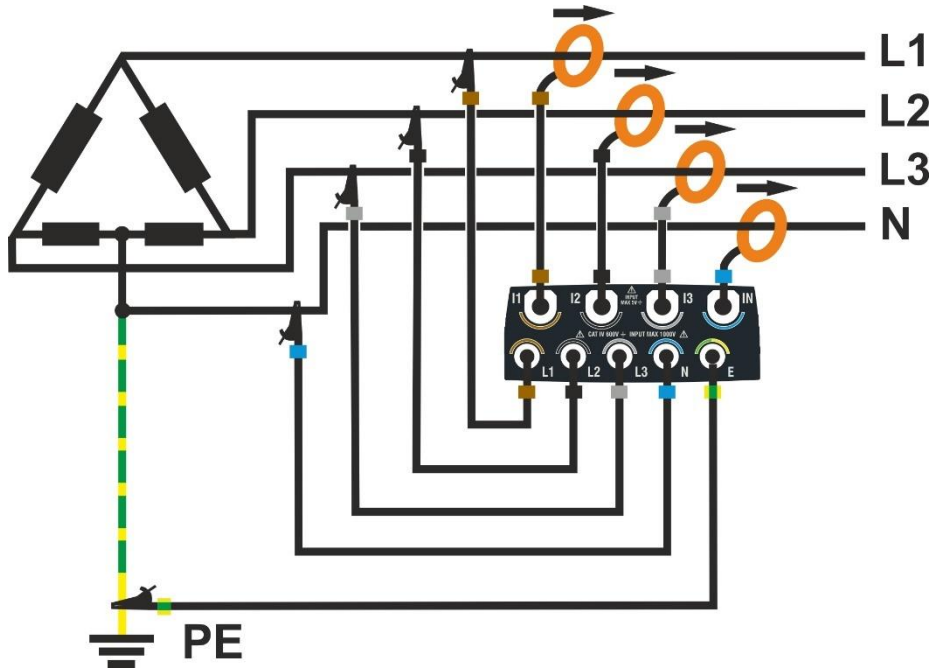

Fig. 68: Connecting the instrument to a Three-Phases 4 Wire 3P HL system
2. Connect the voltage cables to the L1, L2, L3, N and PE conductors as shown in Fig. 68. **Check that the display shows "1-2-3" for the correct cyclic direction of the phases** (see § 5.1.1)